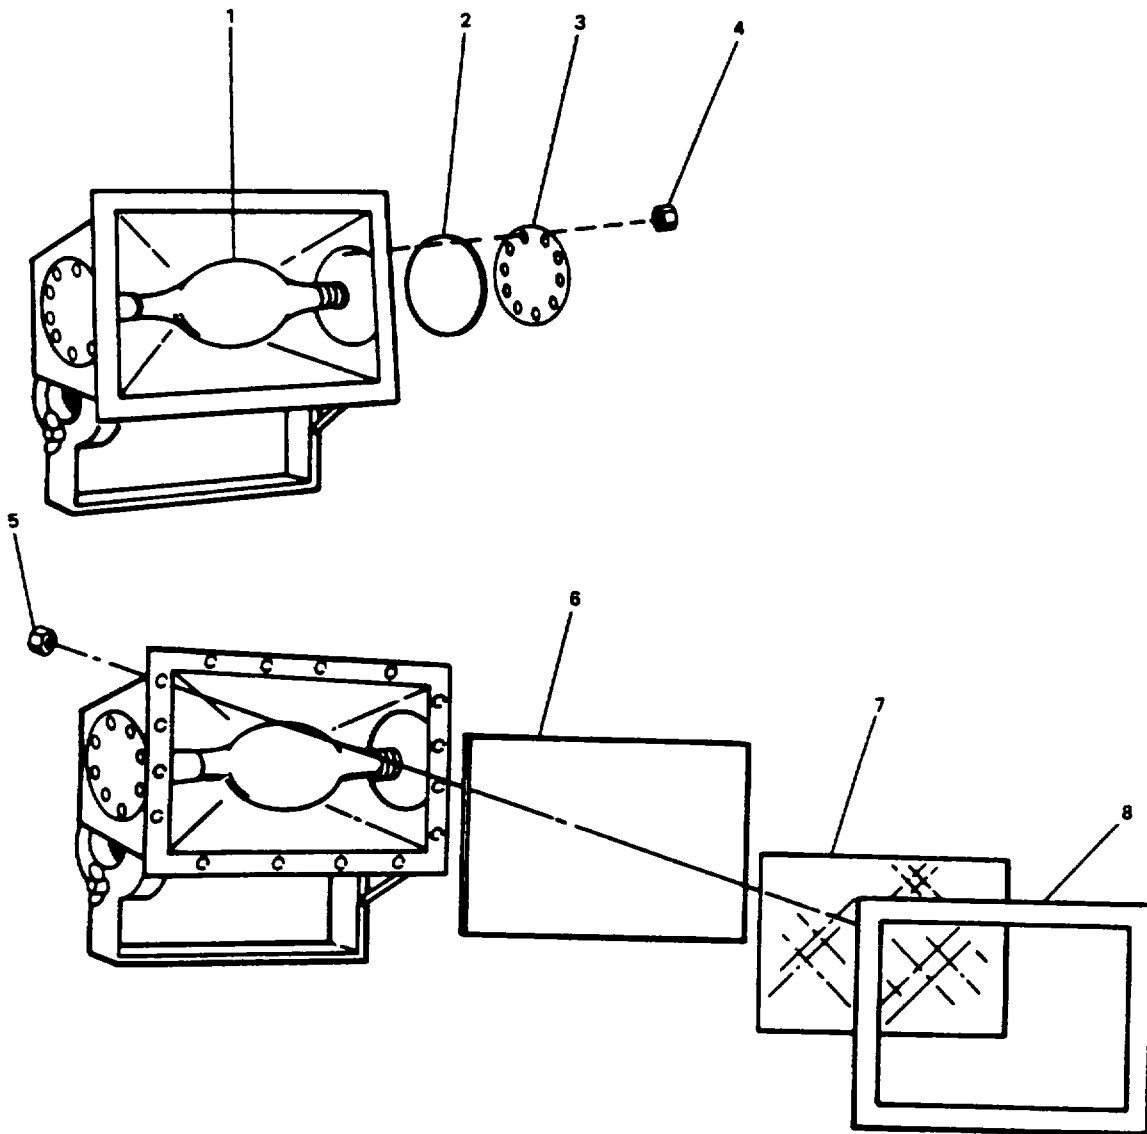

Figure 2-69. Repair Metal Halide Floodlight.
- a. Remove nuts (4, Figure 2-69).
- b. Remove access plate (3) and gasket (2).
- c. Remove lamp (1).
- d. Remove nuts (5).
- e. Remove lens frame (8), lens (7), and gasket (6).